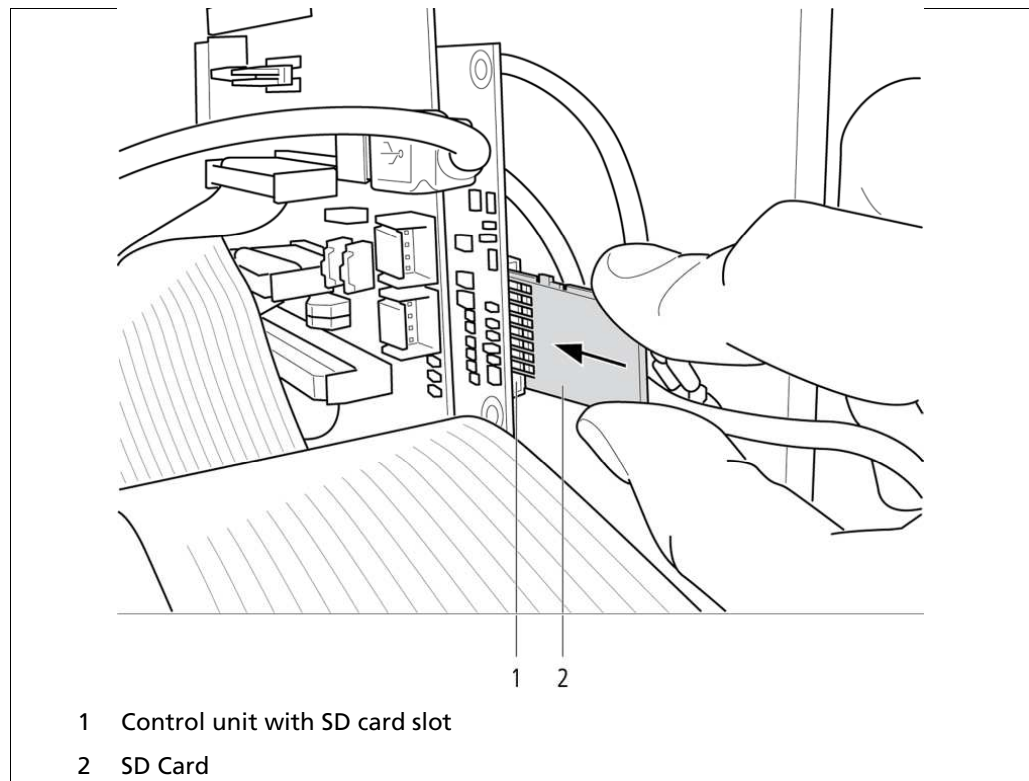

Fig. 14 Control Unit, Installation of the SD Card
3. Push the SD card (Fig. 14, Pos. 2) ) into the SD card slot (Fig. 14, Pos. 1) on the control unit until the SD card snaps into place.